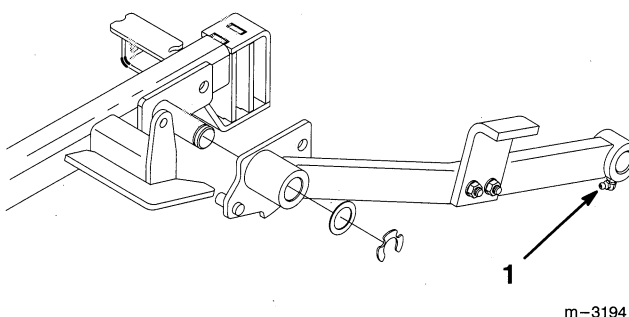

Figure 31
2. Grease the fittings on push arms (Fig. 31).